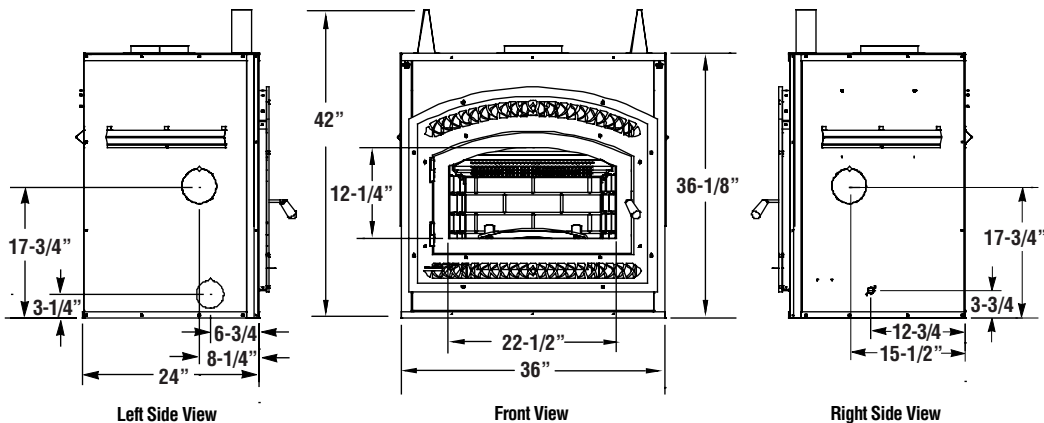

Figure 8 - Framing Dimensions
- C. Frame the fireplace with vertical studs at the sides of the fireplace running from floor to ceiling (see Figure 8). If combustible facing is to be used, position the studs back, from the front edge of the fireplace (a space that is the thickness of the facing material, so that the facing can be installed flush with the fireplace facing). Frame headers between the vertical studs only as follows: